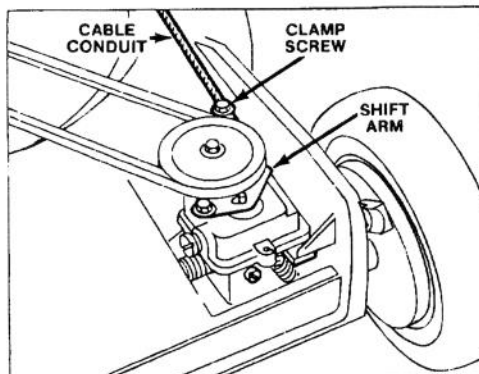

Figure 19
3. **ADJUSTMENT** (Fig. 19) — Loosen cable clamp screw until cable conduit slides. Move handle-mounted wheel drive control to **DIS-ENGAGE** detent. Move shift arm toward clamp screw and hold in place. Pull cable conduit to remove slack and tighten clamp screw.